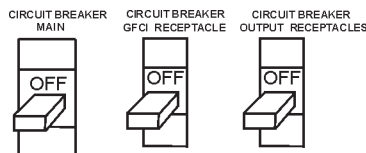

Figure 42. Main, GFCI and Load Circuit Breakers
1. Be sure to disconnect the electrical load and switch the **main**, **load** and **G.F.C.I.** circuit breakers (Figure 42) to the "OFF" position prior to starting the engine.